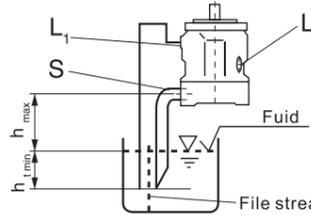

fig. 2
- b) If the minimum fluid level lies under the pump flange area then: ports L1 and possibly S have to be piped as shown in fig. 2. Port L closed, as stated in section 1.2.1
Fill the pump casing with the pump lying horizontal before installation. (See fig.2)